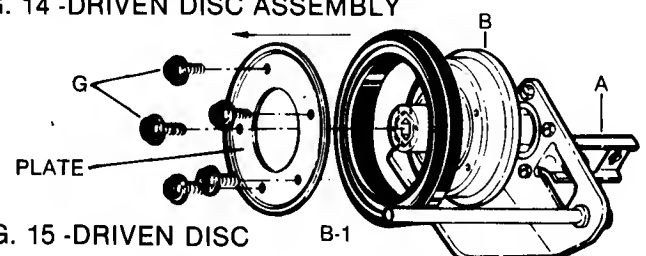

FIG. 15 -DRIVEN DISC
Remove the five screws (G) and plate securing the driven disc rubber ring (B-1) to the hub (B) and replace the ring as shown in FIG. 15. Reverse procedures for re-assembly and installation.